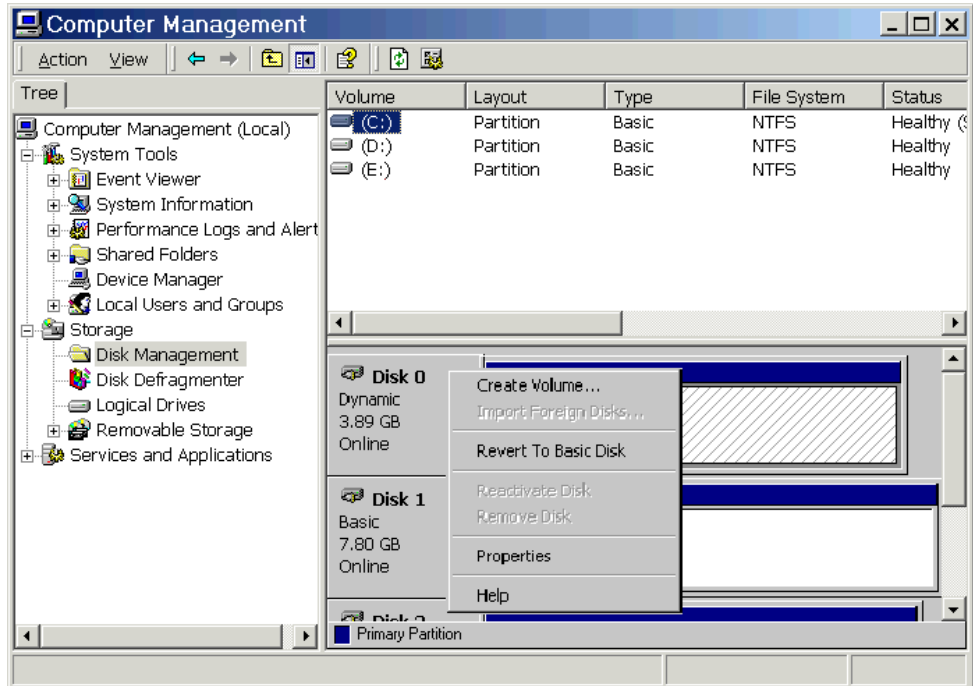

Figure 45. Changing a shared logical drive to Basic Disk
- 1) Right-click the **Disk** icon at the bottom of the Disk Management window (see Figure 45).